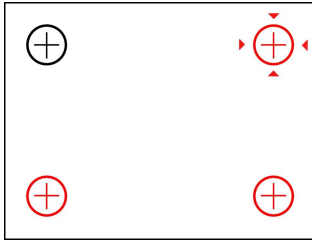

Figure7-2
- As shown in Figure 7-2, when the corresponding button is pressed, the red icon of the corresponding button will turn black, then the red logo points to the next button position, and the four corresponding buttons can be pressed in turn to exit the anti-false touch interface. When the button is pressed, the corresponding position button icon is still red, which means that the button in the wrong position is pressed.